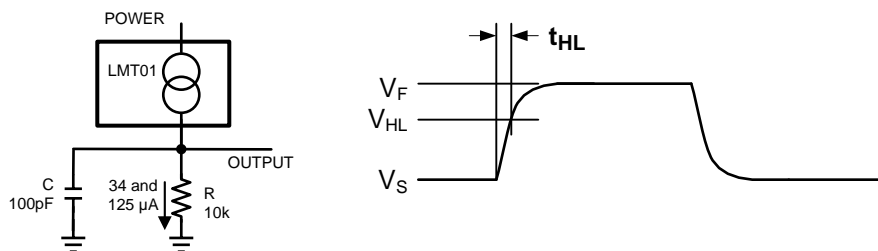

Figure 26. Simple RC Model for Rise and Fall Times
Stray capacitance can be introduced when connecting the LMT01 through a long wire. This stray capacitance influences the signal rise and fall times. The wire inductance has negligible effect on the AC signal integrity. A simple RC time constant model as shown in Figure 26 can be used to determine the rise and fall times.
- RC as shown in Figure 26